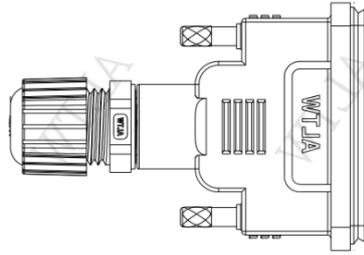

Figure 8-1 Waterproof Connector
- The signal cable connector for the magnetic bearing control board uses the waterproof connector shown in Figure 8-1. During installation, a flat-head screwdriver should be used to tighten the connector, followed by a torque wrench set to 3.5 kgf/cm to prevent abnormalities in motor temperature or control signals.